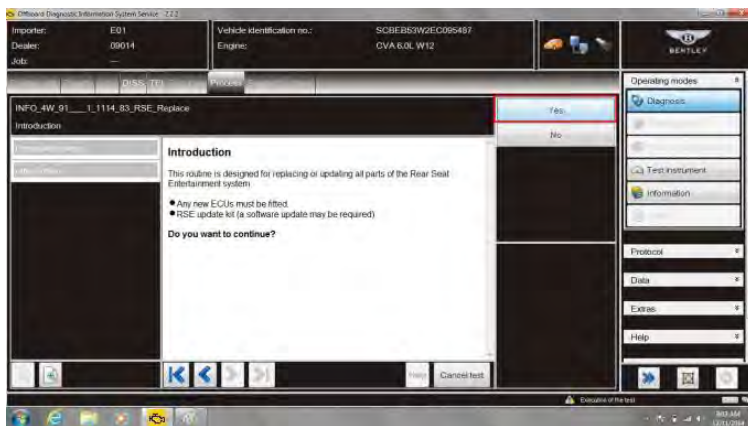

Figure 5
10. Select Yes at *Introduction* screen (see Figure 5)